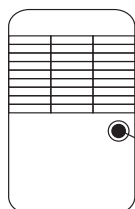

fig.4
- 2) Remove the flat pad from the stopper (fig.4).